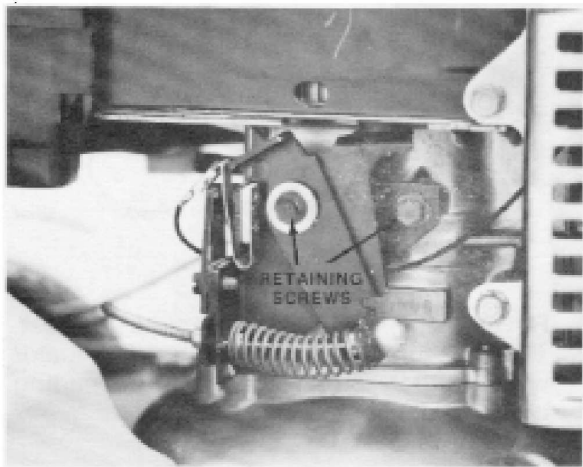

Figure 3-21
6. If removal of the brake assembly and switch is necessary, remove the two retaining screws. See Fig. 3-21.